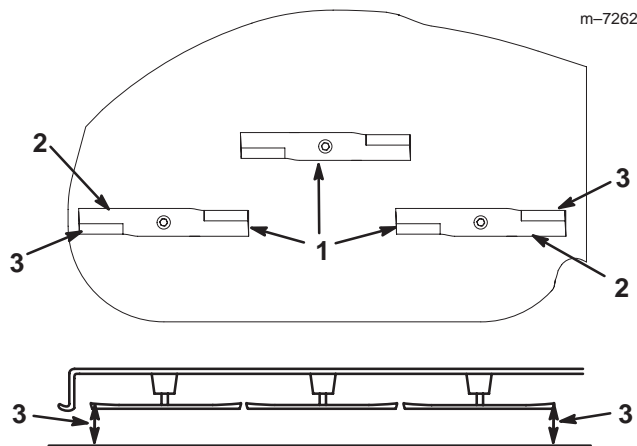

Figure 38
5. Carefully rotate the blade(s) side to side (Fig. 38). Measure between the outside cutting edges and the flat surface (Fig. 38). If both measurements are not within 3/16 inch (5 mm), an adjustment is required; refer to steps 6 through 8.